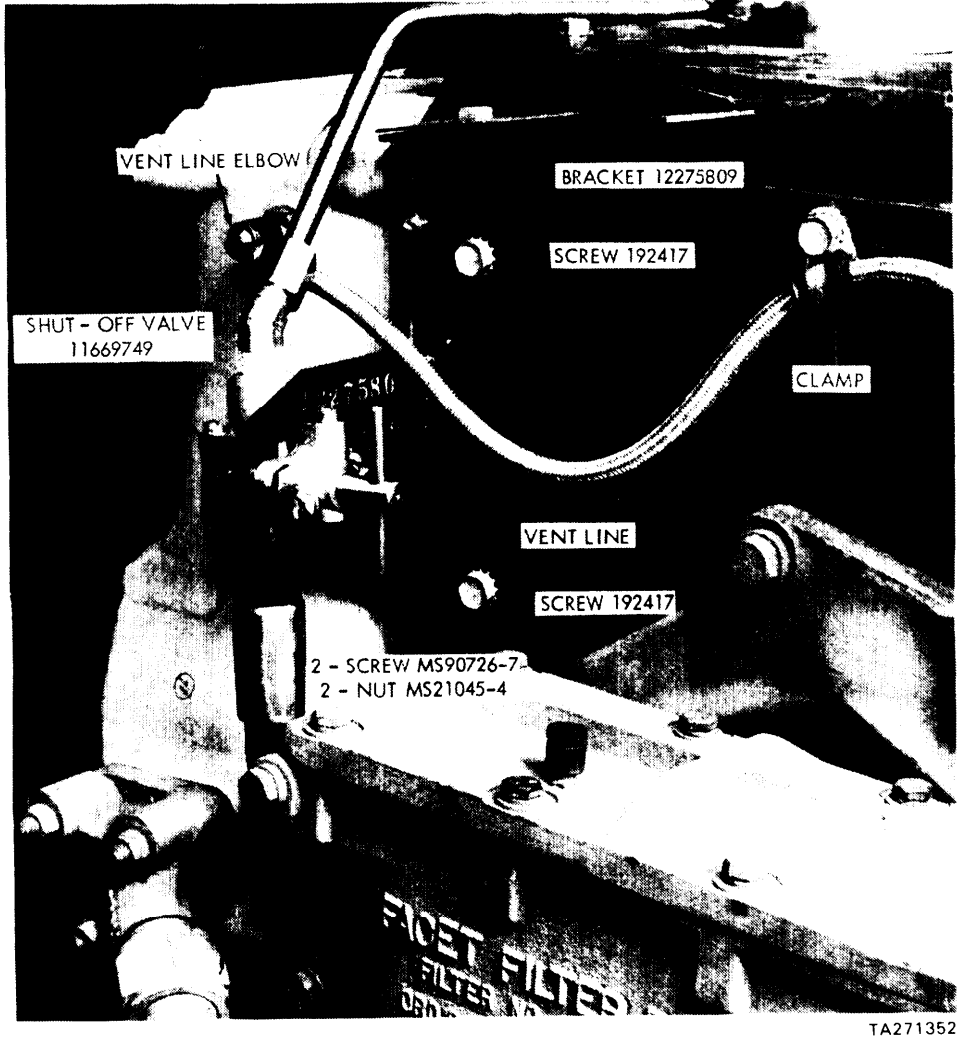

Figure 16. Manual Shut-off Valve Installation
(5) Position shut-off valve bracket 12275809 to shroud and secure with two screws 192417 (figure 16).
(6) Reposition oil cooler vent line elbow and oil cooler vent line so vent line will clear top of bracket 12275809. Tighten oil cooler vent line elbow and screws securing clamps (figure 16).
(7) Install manual shut-off valve 11669749 on bracket 12275809 with two screws MS90726-7 and two nuts MS21045-4 (figure 16).